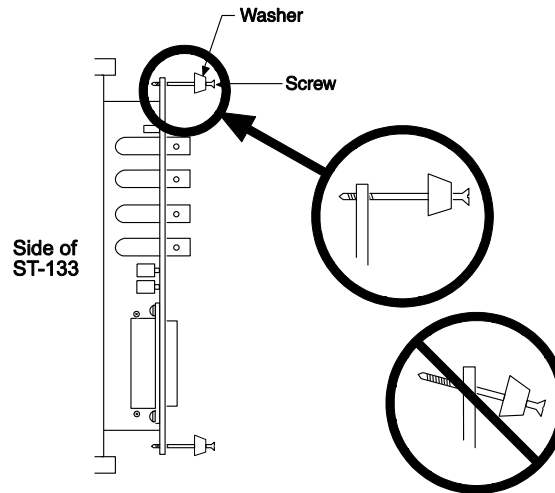

Figure 107. Module Installation
3. Rotate the two locking screws counterclockwise until the threads on the screws engage those of the module panel. *See Figure 107.* By doing this, the screws will be perfectly perpendicular to the module panel and will align perfectly when the module is inserted.